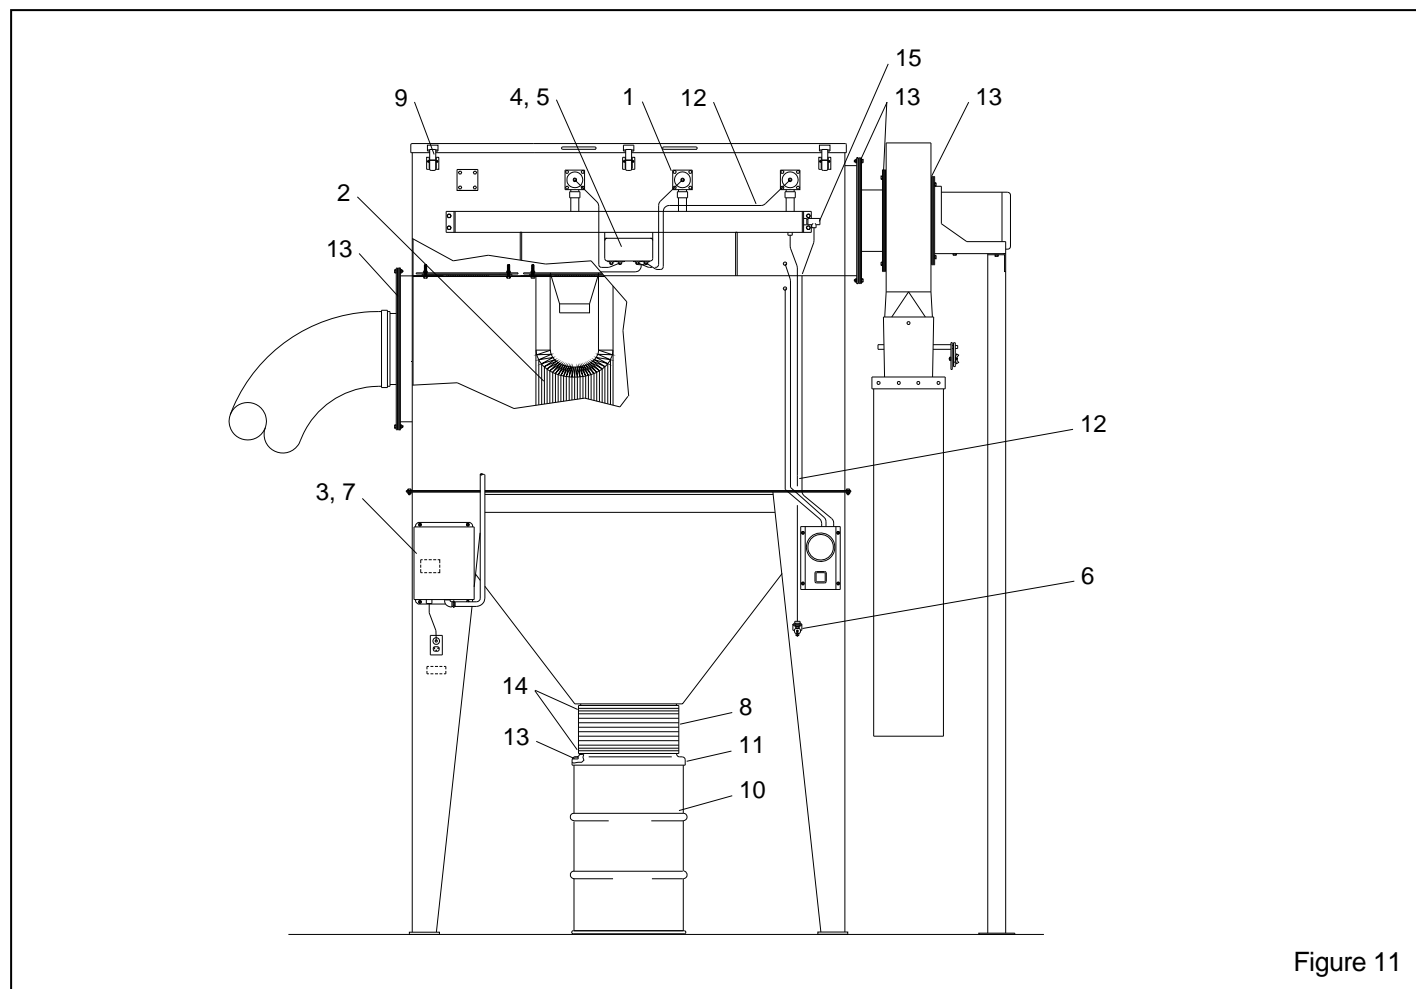

Figure 11
8.2 Common Replacement Parts, Figure 11